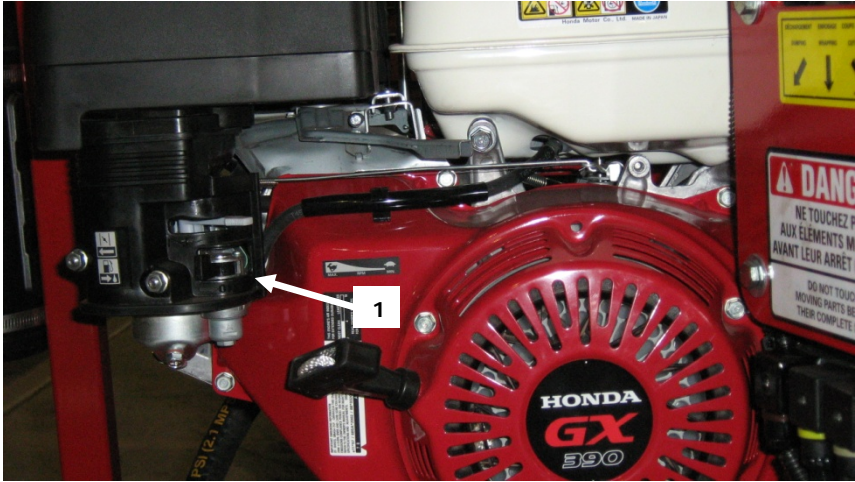

Figure 2.2 Closing the fuel valve
If you will not use the bale wrapper again for a long period of time, do not forget to close the engine fuel valve (1), located beneath the choke on the right side of the engine (Figure 2.2).